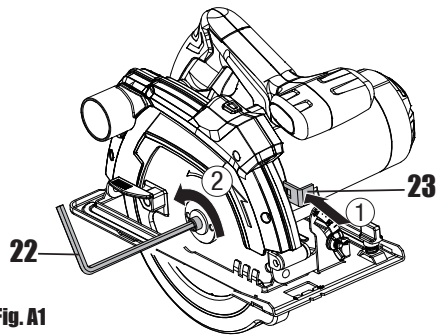

Fig. A1
1. CHANGING A SAW BLADE (SEE FIG. A1-A3)